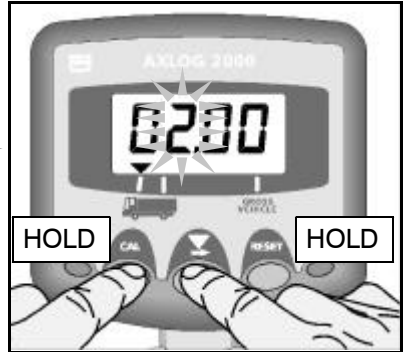

Fig. 8 - Change the digit
5. HOLD the  button to cycle the digit from 0 to 9 (fig. 8).